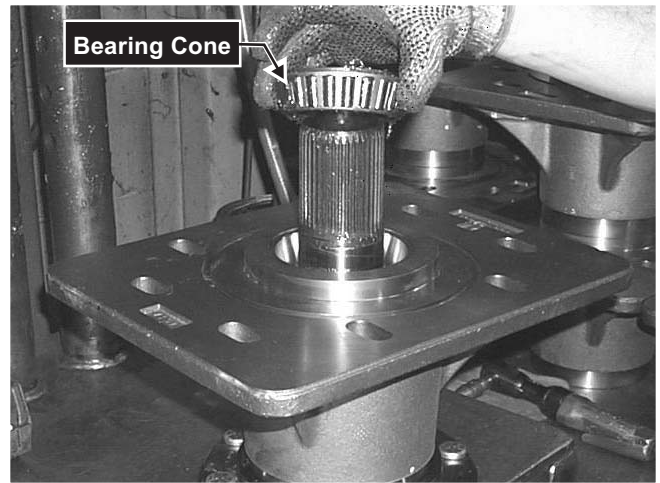

Fig. 5-18 Press the second bearing cone onto the axle shaft.
6. Install inner bearing cone and special washer(s). **Figs. 5-18, 5-19, 5-20**